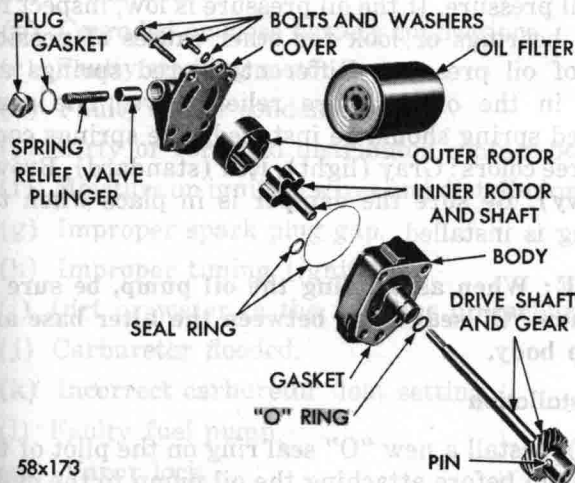

Fig. 62—Oil Pump and Filter Assembly (Disassembled)
- (1) Remove the filter base and oil seal ring.
- (2) Remove the pump rotor and shaft and lift out the outer pump rotor.
- (3) Remove the oil pressure relief valve plug and lift out spring and relief valve plunger (Fig. 62).